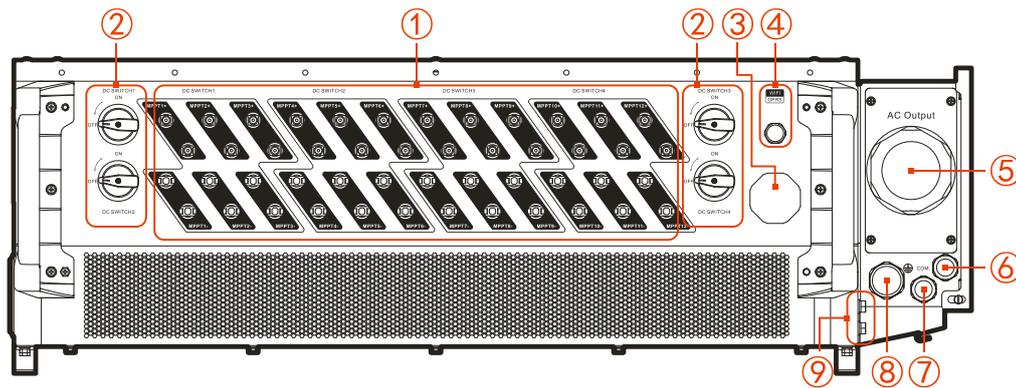

Figure2-6 Bottom layout
The inverter's bottom layout is shown as Figure2-6.
SPI100K-B has 18 groups PV string inputs. The connection identifiers MPPT10+ ~ MPPT12+, MPPT10- ~ MPPT12- in Figure 2-6 are not installed with PV connectors.
The DC switch (the position is shown as ② in Figure2-6) is the connection switch between the inverter and the PV string, when necessary, it can safely disconnect the connection of the inverter and the PV string. In order to ensure the safety of the operator, make sure that the DC switch is turned off under the following conditions:
WIFI/GPRS communication is mainly used for remote monitoring, and the running information of the inverter can be monitored through APP on mobile phone or energy cloud on PC. WIFI/GPRS interface is shown as ④ in Figure2-6.